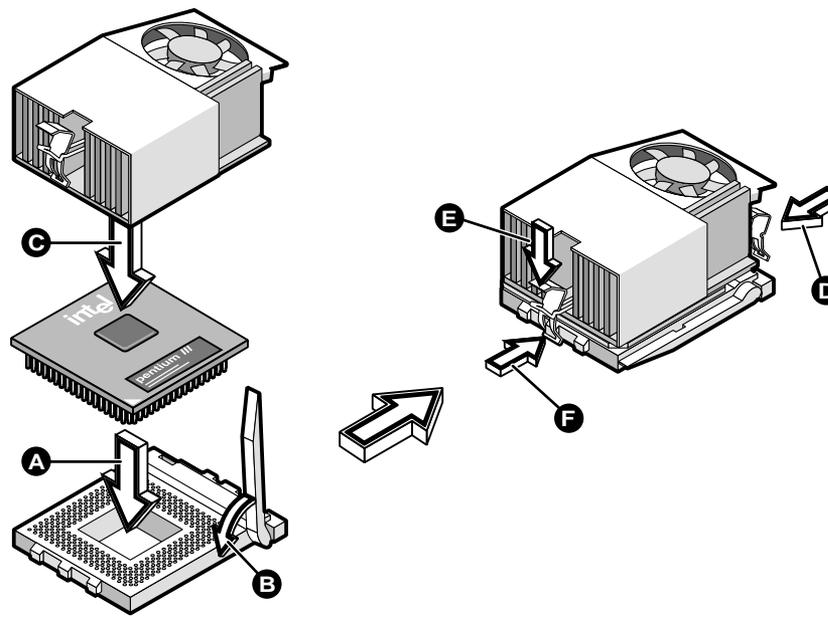

Figure 2-49 Installing the Processor
4. Insert the processor, making sure that pin 1 (indicated by a triangle at the corner of the processor) connects to hole 1 of the socket, as shown in Figure 2-49.
5. Pull down the socket lever to lock the processor into the socket. See step **B** in Figure 2-49.
- Tilt the heatsink/fan assembly on the processor so as to be able to hook the metal bracket that is facing the front of the chassis over the retaining hook on the CPU socket. See step **D** in Figure 2-49.
- Push the releasing tab to latch the other metal bracket over the retaining hook on the CPU socket. See steps **E** and **F** in Figure 2-49.